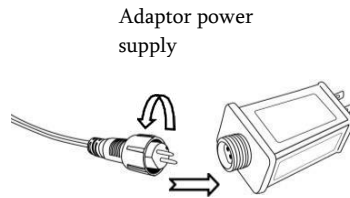

Figure 6
Locate the male connector at the bottom of tree Section (1) and align matching tabs on the insides of the connector and the female end of the adaptor power supply. Secure the connection by tightening the collar on the connector. See Figure 6.